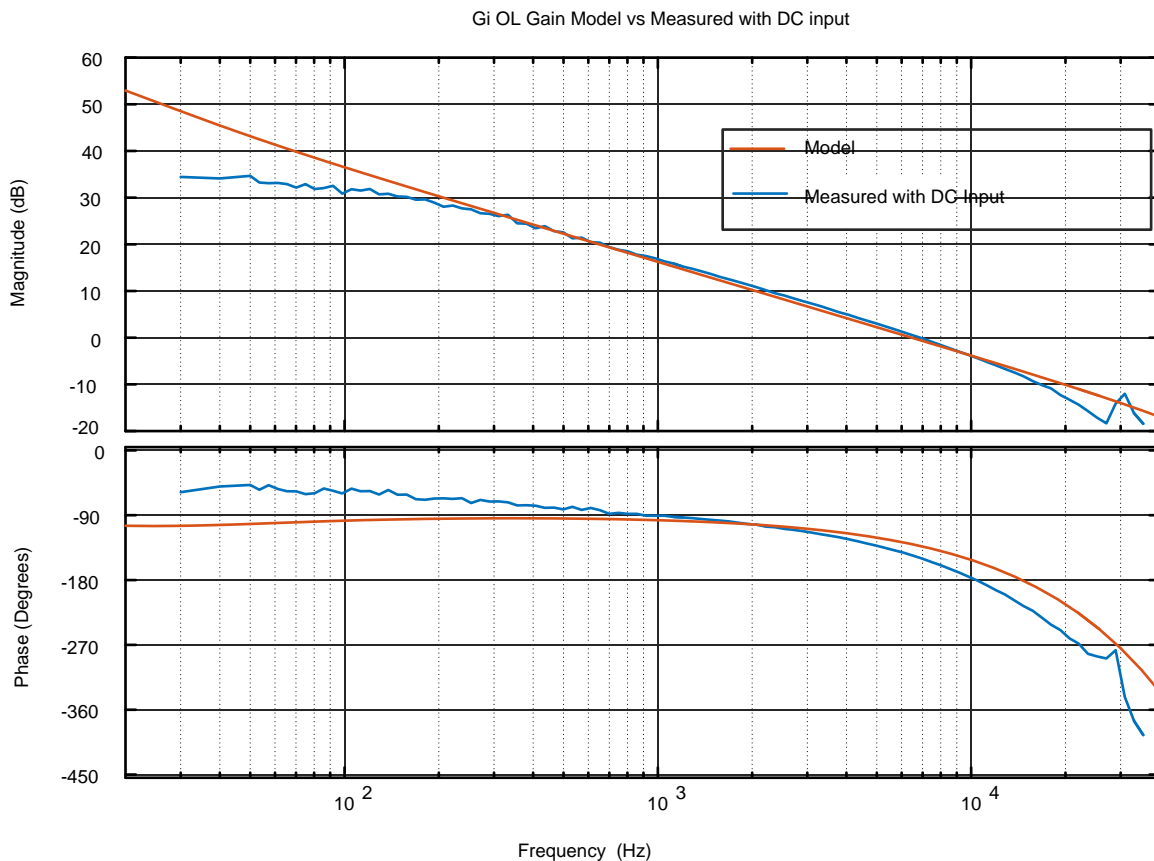

图 29. SFRA Run vs Modeled Closed Current Loop, Open Loop Gain
9. The SFRA GUI connects to the device. A SFRA sweep can now be started by clicking *Start Sweep*. The complete SFRA sweep takes a few minutes to finish. Activity can be monitored by seeing the progress bar on the SFRA GUI and also checking the flashing of blue LED on the back on the control card that indicates UART activity. Once complete, a graph with the open loop plot appears. Comparing this with the measured plots, there is good correlation between the modeled and measured as shown in 图 29. This verifies that the designed compensator is indeed stable and the model accurate. Note: the deviation at low frequency, less than 200 Hz, is expected and is a known phenomena, also the measurement shown here was taken with a DC source, if an AC source is used to emulate a DC source the output impedance of the AC source can result in deviations from the graph plotted below